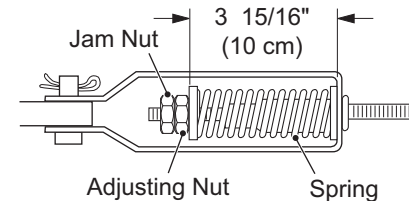

Figure 12 Equalizer and Compensator
6. **Inspect the brake cable equalizer linkage.** Inspect for corrosion, damage, wear or excessive misalignment (Figure 12). Replace the cable if corrosion, damage, or wear is found.
7. **Inspect the compensator assembly.** Inspect for damage, corrosion or wear; replace complete assembly if present. In general, adjustment will not be necessary, as the spring assembly is factory calibrated. With the parking brake disengaged, check that the compensator spring length is 3-15/16" (10 cm) (Figure 12). If an adjustment is required, it must be made using the nuts towards the front of the vehicle. Tighten the jam nut after your are finished adjusting the compensator assembly.